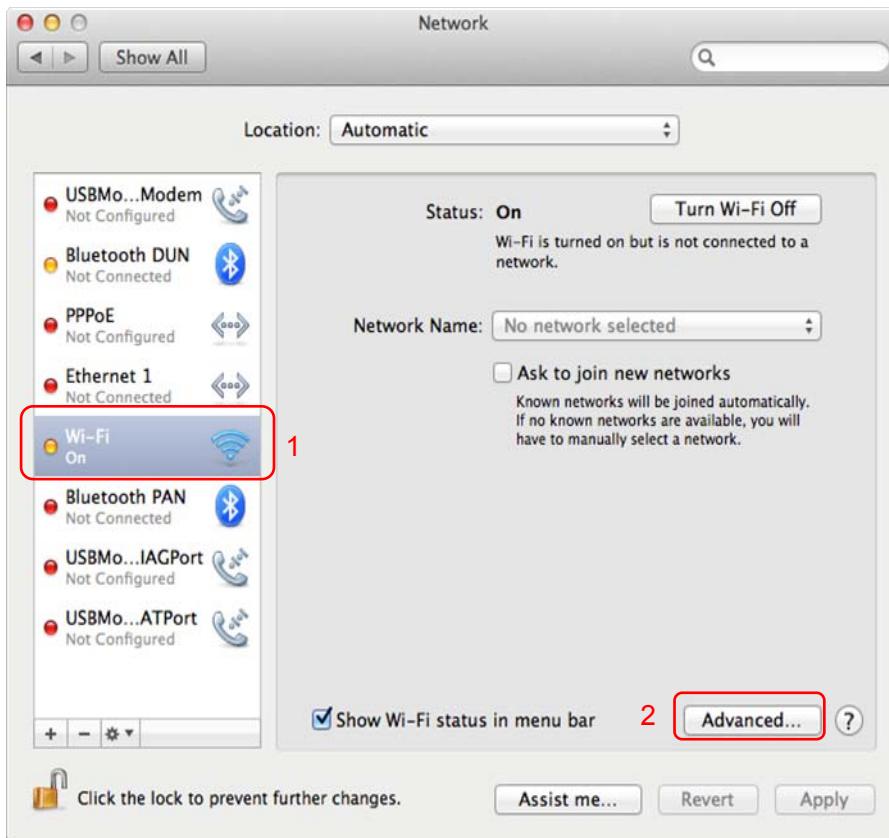
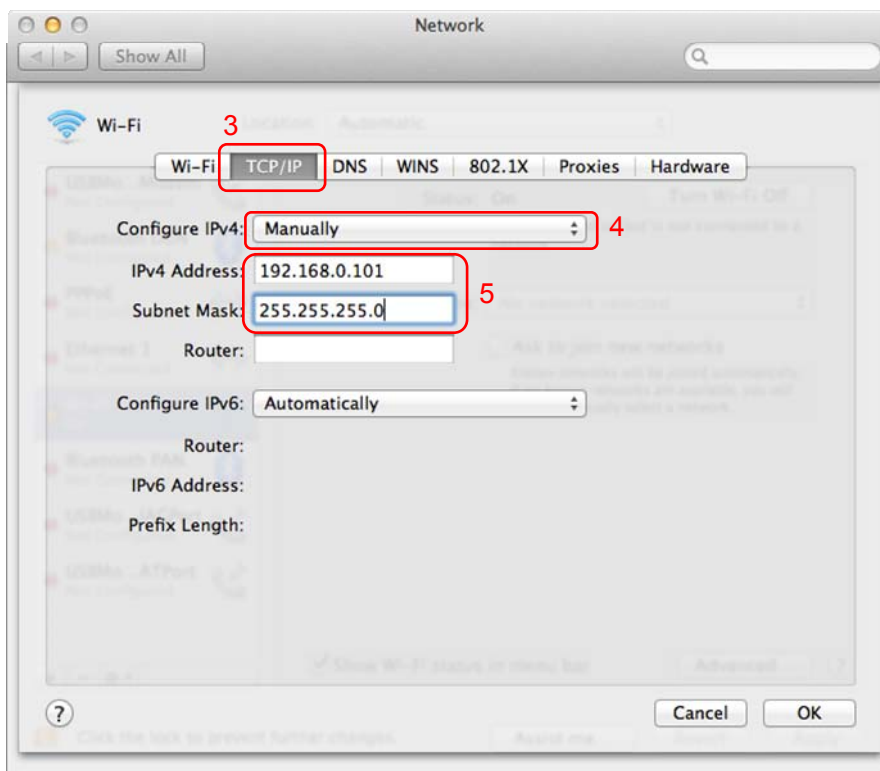

Figure 3-38
Figure 3-39
- Follow the steps as shown in Figure 3-38 and Figure 3-39 to set the IP address.